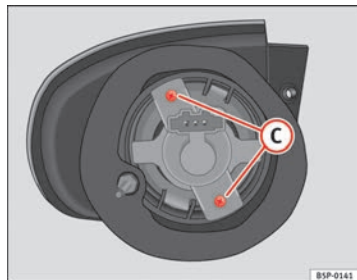

Fig. 193 Turn signal
- Unscrew the bolts ⇒ page 278, fig. 193 **C** from the bulb holder and pull on this.
- Unscrew the bolts ⇒ fig. 193 **C** from the bulb holder and pull on this.